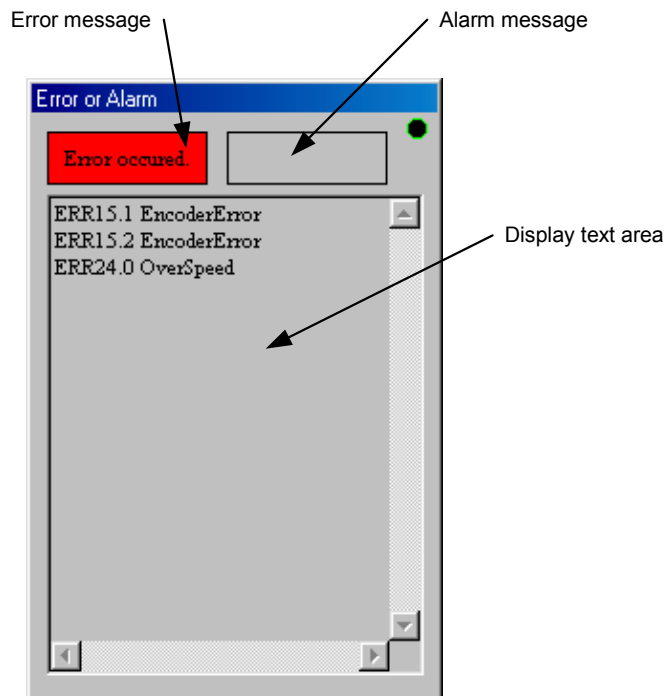

Figure 8.13 “Error or Alarm” dialog box
(4) Error or alarm monitor
In the “Terminal,” click “*Error or Alarm (S)*” under “Monitor” to display the “Error or Alarm” dialog box (see figure 8.13).